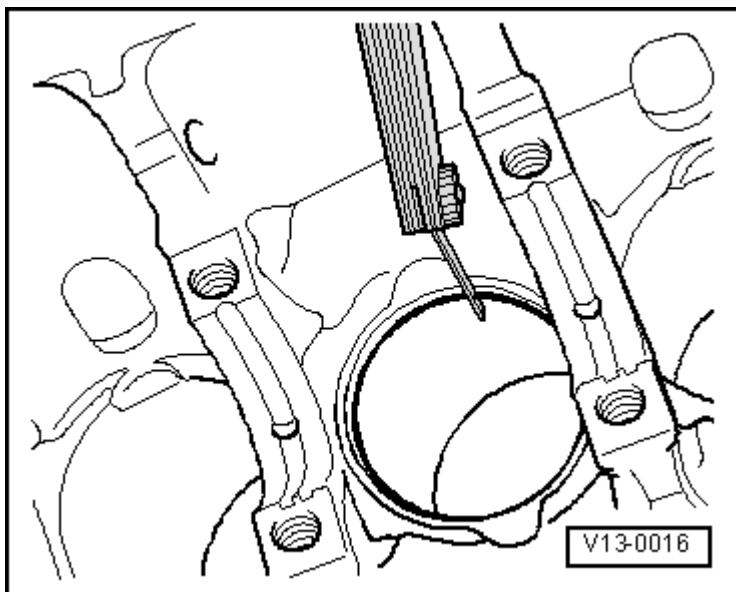

Fig. 14: Identifying Check Of Piston Ring Gap
- Ring gap checking, refer to **Fig. 14**.